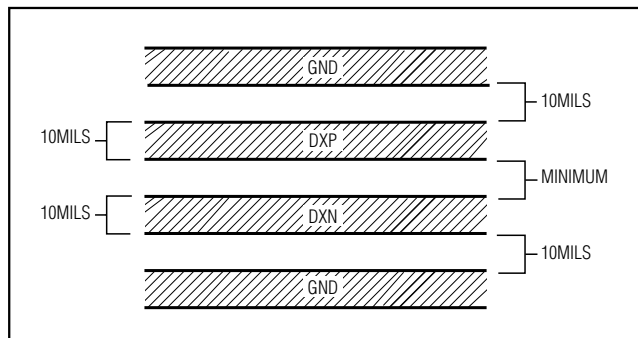

Figure 4. Recommended DXP-DXN PC Traces
- 3) Route the DXP and DXN traces in parallel and in close proximity to each other, away from any higher voltage traces, such as 12VDC. Leakage currents from PC board contamination must be dealt with carefully since a 20MΩ leakage path from DXP to ground causes about 1°C error. If high-voltage traces are unavoidable, connect guard traces to GND on either side of the DXP-DXN traces (Figure 4).
- 6) Use wide traces. Narrow traces are more inductive and tend to pick up radiated noise. The 10mil widths and spacing recommended in Figure 4 are not absolutely necessary, as they offer only a minor improvement in leakage and noise over narrow traces. Use wider traces when practical.